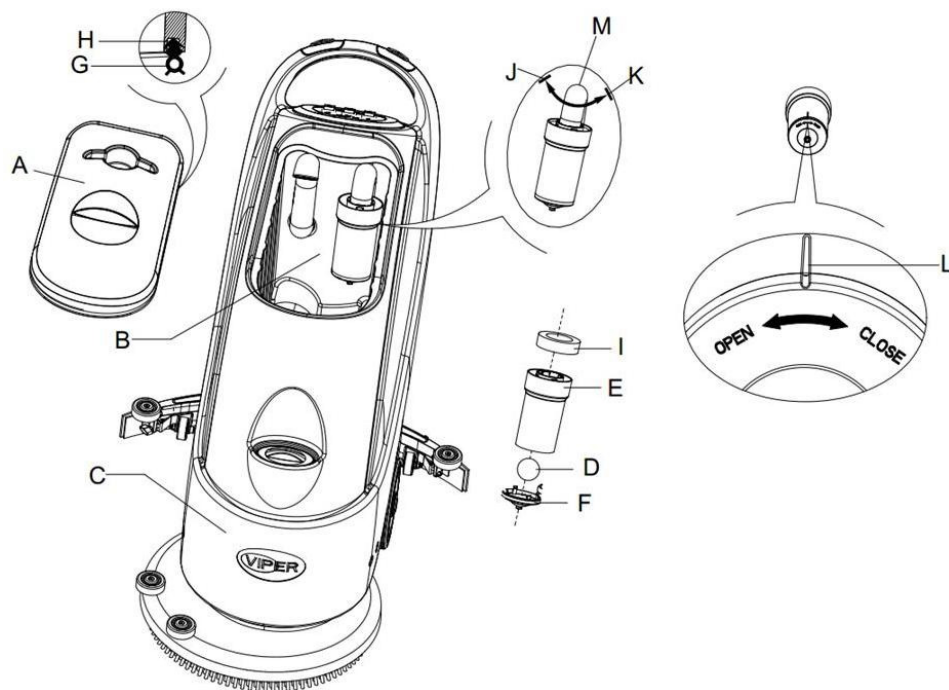

Figure 16
2. Press the power switch (41) to the position “O” to turn off the machine.
3. Open recovery tank lid (A, Figure 16), and remove the float device (36) from inside the tank.
4. Use clean water to rinse the recovery tank lid (A), the tank (B and C), and the float filter support frame (E). Drain all the water from the water tank.
5. If necessary, following the symbols “Open” and “Close” as shown in Figure 16, open the bottom lid (F) of the float filter and clean the float (D), float filter support frame (E), and the filter sponge (I). After cleaning, re-attach the float onto the support frame (E), and then align the mark groove (L) of the bottom lid (F) of the float filter with the mark groove (L) of the float filter support frame (E). Turn the bottom lid (F) of the float filter tight, and re-attach the filter sponge (I) onto the support frame (E), and then onto the vacuum tube (M).
6. Inspect the seal / gasket (G) of the recovery tank lid.
If necessary, the recovery tank seal / gasket (G) may be taken out from the groove (H) and changed. When installing the new seal / gasket as shown in Figure 16 below, install the connector to the middle section of the rear part.
7. Check if the receiving surface of the sealing strip (G) is intact and seals adequately.
8. Close recovery tank lid (A).